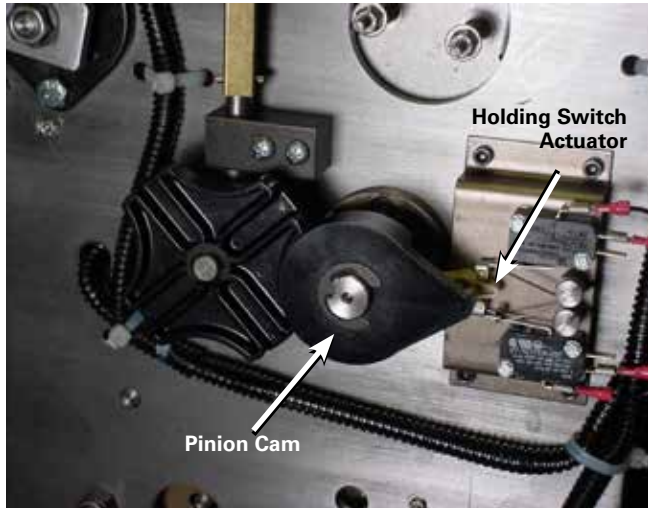

Figure 28. Neutral position for position indicator pinion cam and holding switch.
- C. The pinion cam is pointing to the right over the holding switch actuator. See Figure 28.